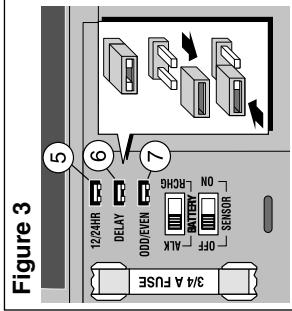

**Figure 2**
3. Locate the battery charger switch (9) as indicated in **Figure 2**. If an Alkaline battery is installed, the switch must be set to the left position to turn the charging circuit off. If a rechargeable Ni-MH battery is used, the switch must be set to the right position to turn the charging circuit on.